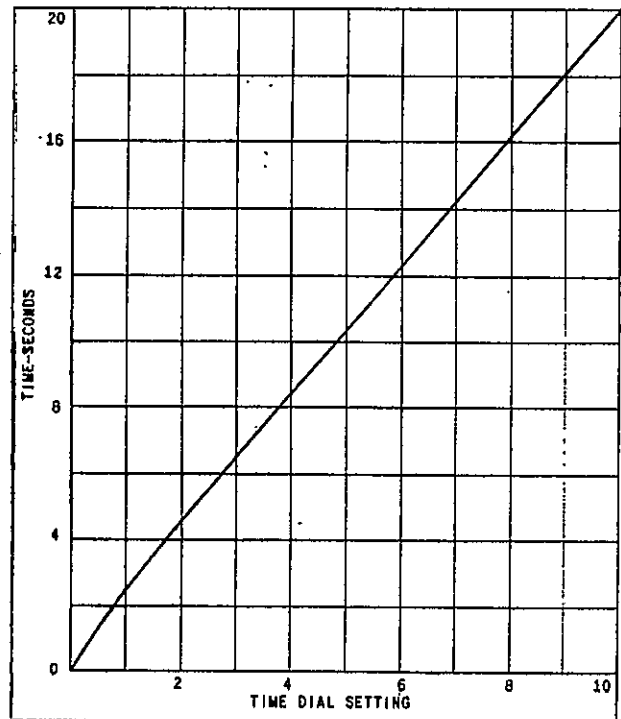
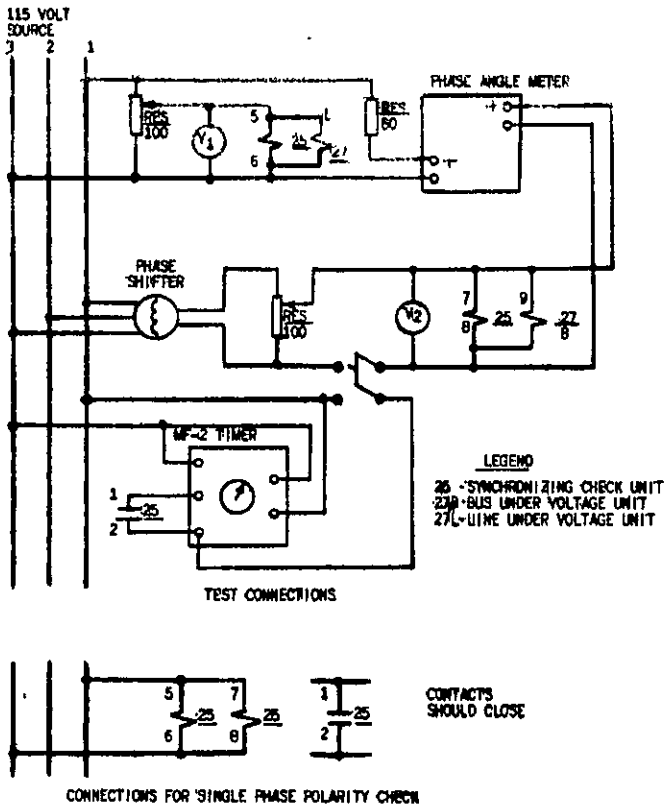
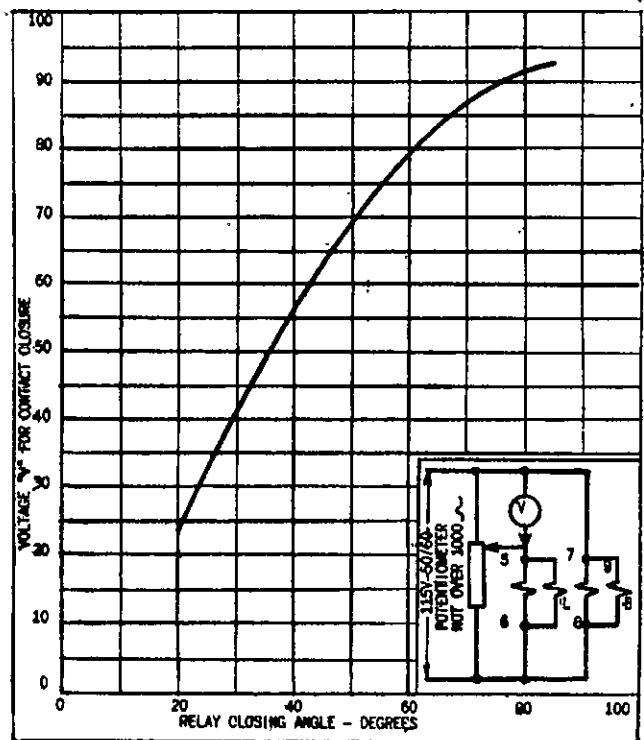

Fig. 6 (K-6400150-2) Operating Time Of Type IJS Relay With 20° Closing Angle At 0°, 115 Volts, 50/60 Cycles On Both Circuits
Fig. 10 (0165A7533-) Testing Connections For Relay Type IJS52D
Fig. 11 (0165A7534-) Connections And Curve To Make Approximate Closing Angle Adjustment Without Phase Shifter On 115 Volt - 50/60 Cycle Relay. Relay Type IJS52D
Fig. 6 gives the operating time in seconds for various time-dial settings with zero phase displacement and with rated voltage at 60 cycles on both circuits. Curves for 50 cycles are similar. The telephone-type undervoltage units are calibrated to pick up between 35 and 52 volts and to drop out between 17 and 35 volts.
Connect the relay as shown in Fig. 10 and check the following:
1. Check that the relay picks up with at least 115 volts, 60 cycle single-phase source connected to both operating coils with approximately the time delay shown in Fig. 6.
The relay closing angle should be set as required for its permanent location which would normally be 20 degrees. Connect the relay as shown in Fig. 10 and check that the relay picks up at the proper phase angle plus or minus 3 degrees.
If a phase angle meter or a phase shifter is not available, it is possible to adjust the relay to approximately the closing angle desired by means of the connections and curve shown in Fig. 11. In this test rated voltage is held on one circuit (studs 7-8) and a reduced voltage is applied to the other circuit (studs 5-6). The voltage connected to studs 5-6 is adjusted until the synchronizing check unit just closes its contact. The difference between the two voltages should agree approximately with the voltage given on the curve shown in Fig. 11 for the phase angle used (i.e. 24 volts for 20 degrees closing).
When using either connections shown in Fig. 10 or Fig. 11, check the operating time at 0 displacement with 115 volts on each coil using the time dial setting of the permanent location. (See Fig. 6 for nominal time delay values).
1. Check that the maximum closing angle for pick-up of the synchronizing check unit agrees approximately with the value shown on the curve in Fig. 11.
2. Check the closing time with the potentiometer set to provide 115 volts on both circuits. The time should agree with values given in Fig. 6 plus or minus 10 percent.
Connect the relay as shown in Fig. 10. To make an accurate adjustment of the closing angle, a phase shifter and phase angle meter are required along with a means for voltage control.
Using connections shown in Fig. 10 set V_1 at 115 volts. If a 20 degree closing angle is desired, set V_2 at 115 volts, leading V_1 by 20 degrees. Adjust the left-hand resistor until the contacts just
If it is necessary to adjust the time characteristics, impose the chosen conditions on the relay, using connections shown in Fig. 10 and adjust the time dial and, if necessary, the drag magnet until the correct operating time is obtained.